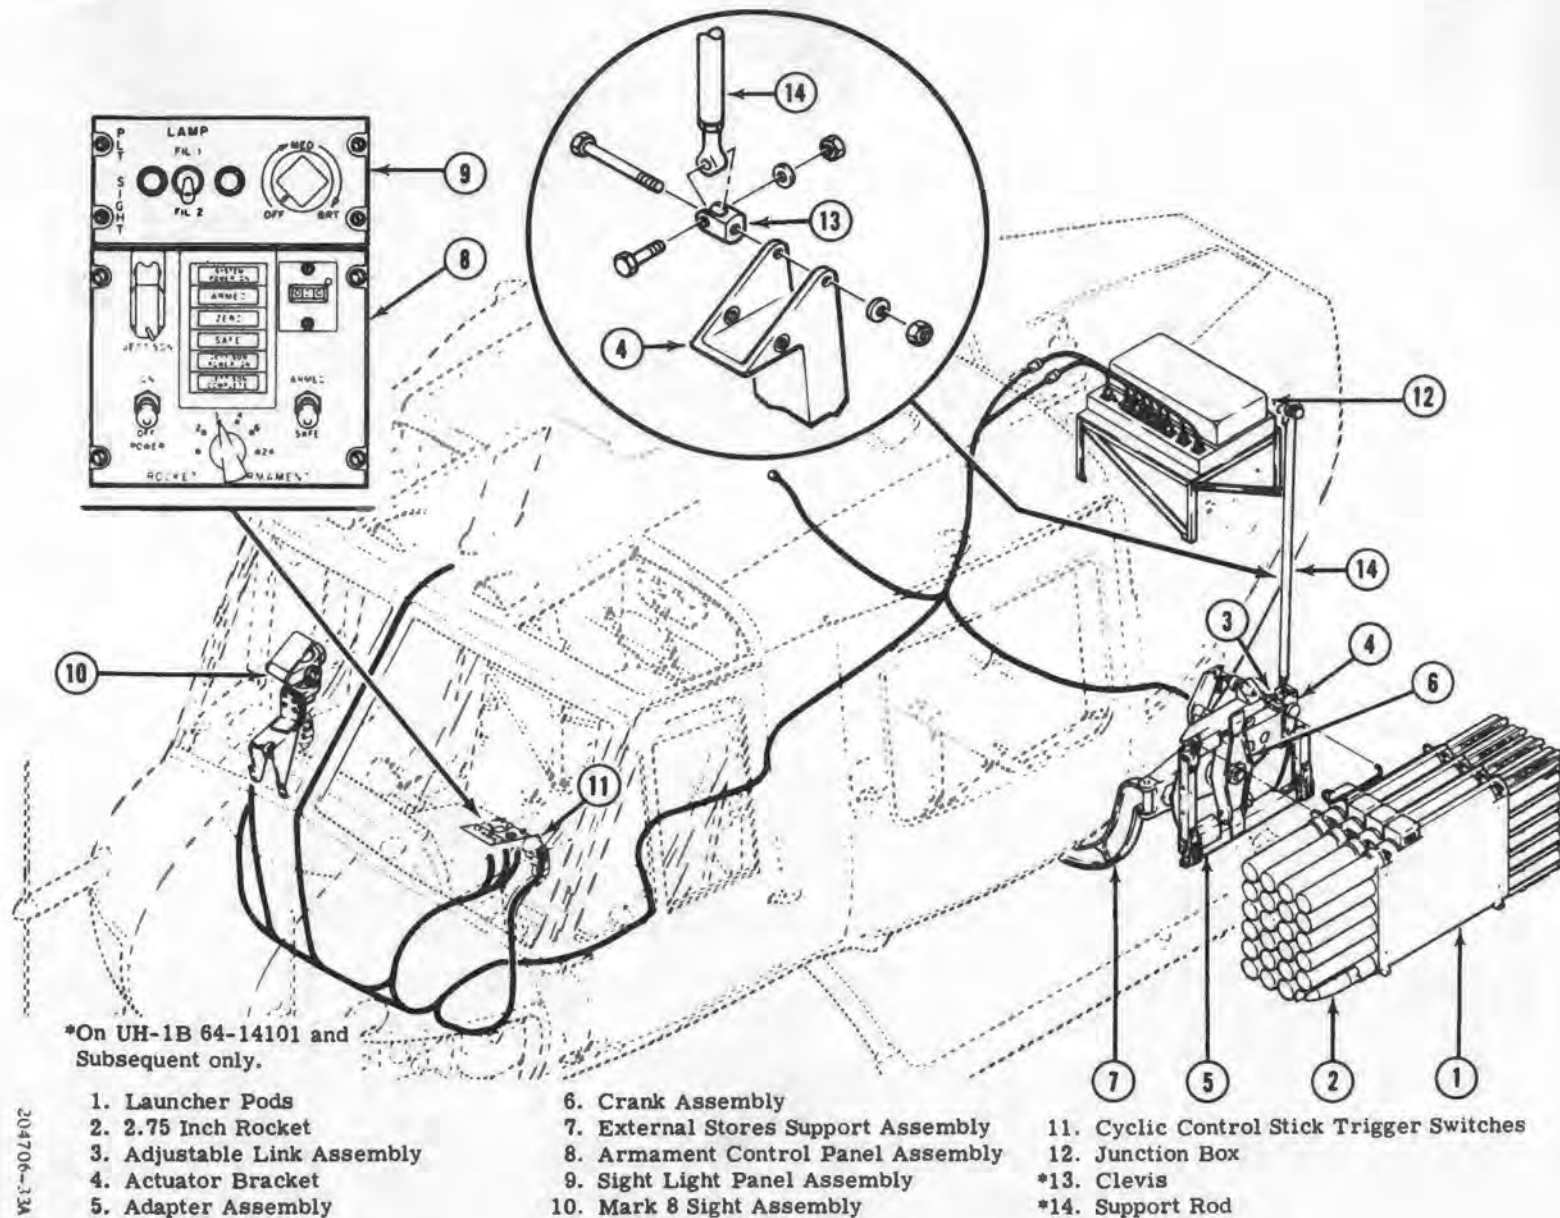

Figure 14-4. 2.75 inch, XM3, fixed rocket installation
14-21. Rocket Installation—2.75 Inch, XM3, Fixed. (See figures 14-3 and 14-4.) Complete electrical provisions for installing the XM2, 2.75 rocket installation are included in UH-1B helicopter. The 2.75 inch, XM3, fixed rocket installation includes two launcher pods (1, figure 14-4), one on each side of the helicopter. Each pod consists of four modules, each of which contains six launcher tubes, thus giving the helicopter a total armament capability of forty-eight modified Navy Type Mark IV, Mod VI, rockets. (See figure 14-4.) Each launcher pod may be adjusted from plus six degrees to minus six degrees by manually operating the adjustable link assembly (3, figure 14-4) the aft end of which is pinned to the actuator bracket (4, figure 14-4). Manually adjustable back-up bearings act as mechanical stops to limit the launcher at plus 8 degrees to minus 18 degrees relative to the helicopter. Launcher pods can be jettisoned by means of explosive bolts. Each pod is attached to an adapter assembly (5, figure 14-4) by means of four quick release attachment pins. Each adapter assembly is attached to a crank assembly (6, figure 14-4) which mates to the center hole in the external stores support assembly (7, figure 14-4) cross-beam. The external stores support assembly is attached to the "hardpoints" on the helicopter fuselage structure. Other components of this installation include an armament control panel assembly and a sight light panel assembly, located in the lower left-hand corner of the instrument pedestal; a Mark 8 sight assembly, mounted on the right-hand side of the instrument panel just above the helicopter altimeter; cyclic control stick trigger switches; a junction box, and necessary electrical wiring circuit breakers and relays. The system is capable of selective firing from the cabin, by either the pilot or copilot in the following modes:
14-22. Rocket — 2.75 Inch. (See figure 14-4.) The 2-75 inch folding-fin aircraft rocket
14-25. Launcher and Adapter. (See figure 14-4.) A launcher and adapter for the 2.75 XM3 fixed rocket are attached to each side of the helicopter fuselage. Each launcher contains four six-rocket modules which are attached to the adapter assembly. All modules are interchangeable with respect to attachment points and alignment. Switch boxes are on top of the module on the left-hand side of the helicopter (looking down range) and on the bottom on the right-hand side. The adapter assembly is an open, rectangular, aluminum frame which is attached to the crank by means of two explosive bolts.
14-29. Adjustable Link Actuator Bracket and Crank Assembly. (See figure 14-4.) Each launcher for the 2.75 XM3 Fixed Rocket Installation has an adjustable link with the forward end mounted in a yoke formed by the upper end of the crank and the plate and spacer assembly. The aft end of the adjustable link is pinned to the actuator bracket. The actuator bracket is an open box type structure with extended sides which form lugs for pinning the aft end of the adjustable link to the aft end of the cross beam. The actuator bracket also receives the threaded ends of the adjustable backup bearings. The crank assembly is an aluminum box section unit. In conjunction with a steel shaft, bearings and other miscellaneous components, the crank assembly is attached to the cross beam of the external stores support and serves as the mounting point for the adapter assembly.
14-30. Removal — Adjustable Link, Actuator Bracket and Crank Assembly. (See figure 14-4.)
14-31. Installation — Adjustable Link, Actuator Bracket and Crank Assembly. (See figure 14-4.)
14-32. Panel Assembly — Armament Control. (See figure 14-4.) The armament control
14-33. Removal — Armament Control Panel Assembly. (See figure 14-4.) a. Make sure that the helicopter master battery switch is in the "OFF" position and that external power is disconnected.
14-35. Panel Assembly — Sight Light. (See figure 14-4.) The sight light panel assembly for the 2.75 XM3 Fixed Rocket Installation is located in the lower left-hand corner of the instrument pedestal just forward of the armament control panel. The purpose of this panel is to control the power to the Mark 8 sight lamp. This action, as well as the intensity of illumination, is accomplished by means of a rheostat. The sight lamp has two filaments, either of which may be used for illumination. A switch on the sight light panel assembly affords the operator a choice of FIL 1 or FIL 2. The panel also is equipped with two standard panel lights.
14-38. Sight Assembly — Mark 8. (See figure 14-4.) The pilot sight for the 2.75 XM3 Fixed Rocket Installation is used as an aid in maintaining alignment of the helicopter with the target during firing of a missile. The sight is mounted on a support assembly which is attached to the right-hand side of the instrument panel in front of the pilot's seat. The pilot sight consists of a sight body, a lamp and housing and a Mark 4 Mod O reflector assembly. A small control panel on the center console contains a FIL-1 — FIL 2 switch and an intensity control for illumination of the reticle.
14-39. Removal — Mark 8 Sight Assembly. (See figure 14-4.) a. Remove four nuts and bolts attaching pilot sight (10) to support assembly and remove pilot sight.
14-40. Installation — Mark 8 Sight Assembly. (See figure 14-4.) a. Position pilot sight support assembly on instrument panel, and install attaching screws, washers and nuts.
14-1. Armament Junction Box. (See figure 14-4.) The junction box for the 2.75 XM3 Fixed Rocket installation connects to electrical connector at center of pylon in cabin and contains the circuitry necessary for firing the rockets and for jettisoning the two pod assemblies. It also contains a RESET button which cycles the stepping switch to zero and a zero indicator light which illuminates when stepping switch is in zero position.